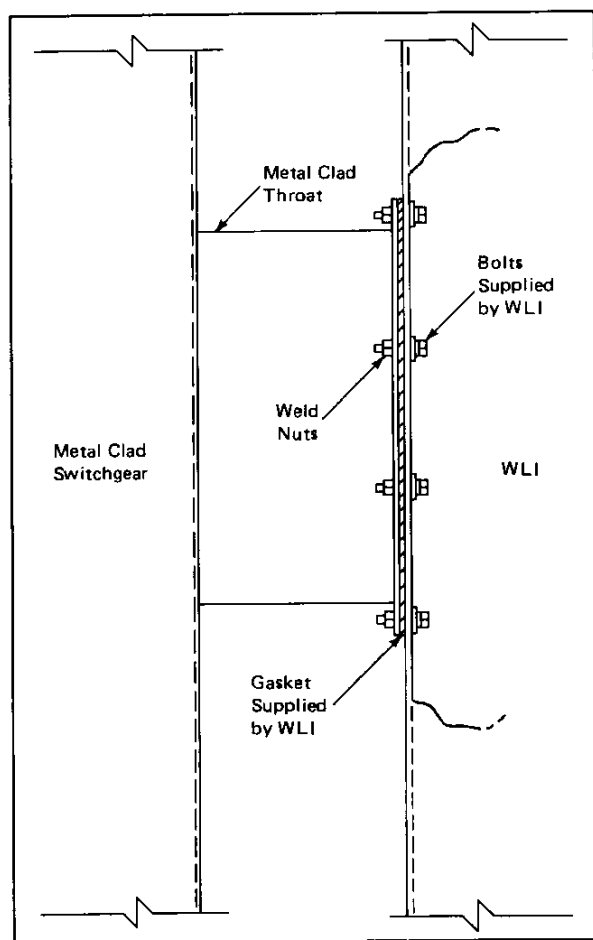

Fig. 5 Connection to Metal Clad Switchgear Lineup — Outdoor Unit
3.4.2 Outdoor Switchgear (See Fig. 5).